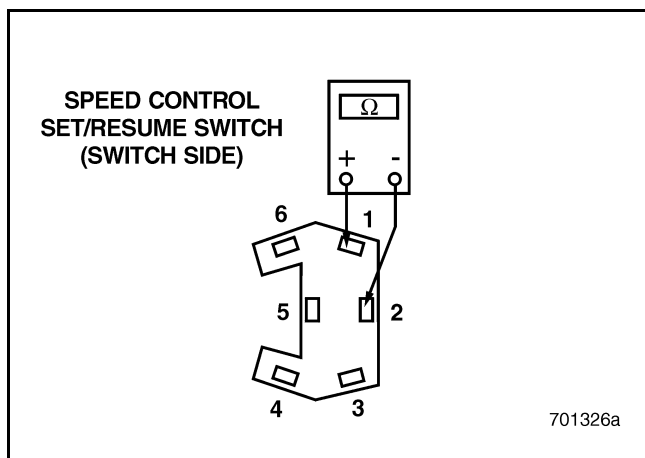

Figure 702
3. With the Speed Control Set/Decel Switch OFF, check for continuity between pins 1 and 2 of the Speed Control Set/Decel Switch (see Figure 702).